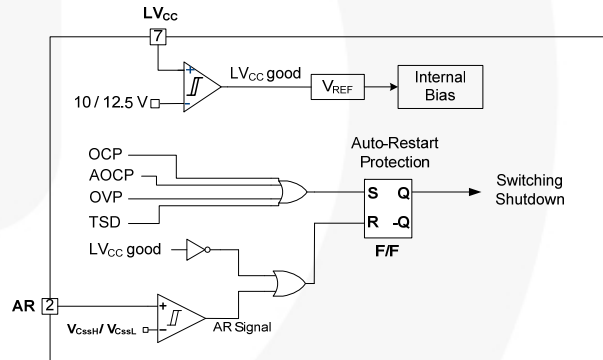

Figure 22. Protection Blocks
**5. Protection Circuits:** The FSFR-XS series has several self-protective functions, such as Over-Current Protection (OCP), Abnormal Over-Current Protection (AOCP), Over-Voltage Protection (OVP), and Thermal Shutdown (TSD). These protections are auto-restart mode protections, as shown in Figure 22.